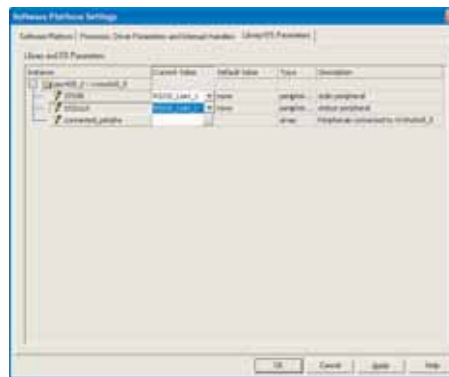

Figure 3 – Configuring the OS-specific parameters
2. Once you have selected the OS, you can go to the Library/OS Parameters tab, as shown in Figure 3, to tailor the Tornado BSP to the custom hardware. You have the option of selecting any UART device in the system as the standard I/O device (stdin and stdout). This results in the device being used as the VxWorks console device.